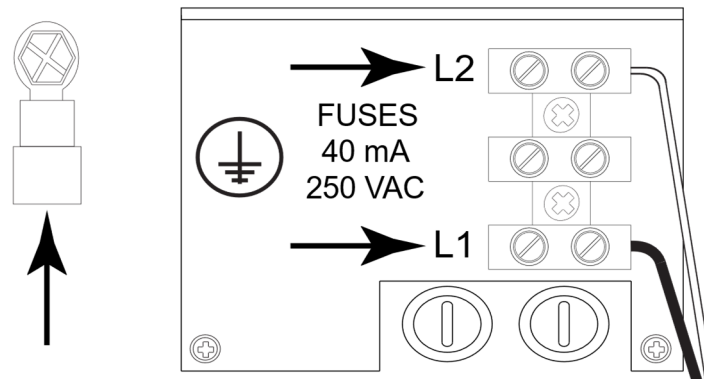

Figure 3
6) Connect the AC input power to the interface block labeled **L1**, **L2**, and **Ground** in the following manner. (see figure 3 and Appendix I)